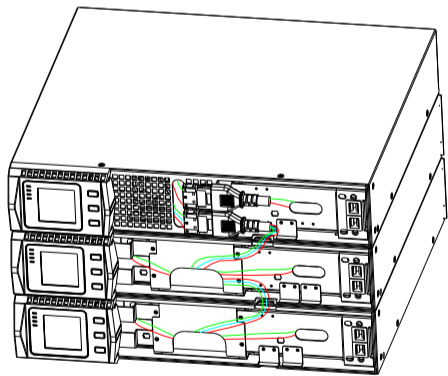

Figure3 Typical EBP Installation
3. Plug the EBP cable(s) into the battery connector(s) as shown in Figure 3. A small amount of arcing may occur when connecting an EBP to the UPS. This is normal and will not harm personnel. Insert the EBP cable into the UPS battery connector quickly and firmly. Up to four EBPs may be connected to the UPS. Connect red to red, black to black, and yellow to yellow. Press the two parts tightly together to ensure a proper connection.